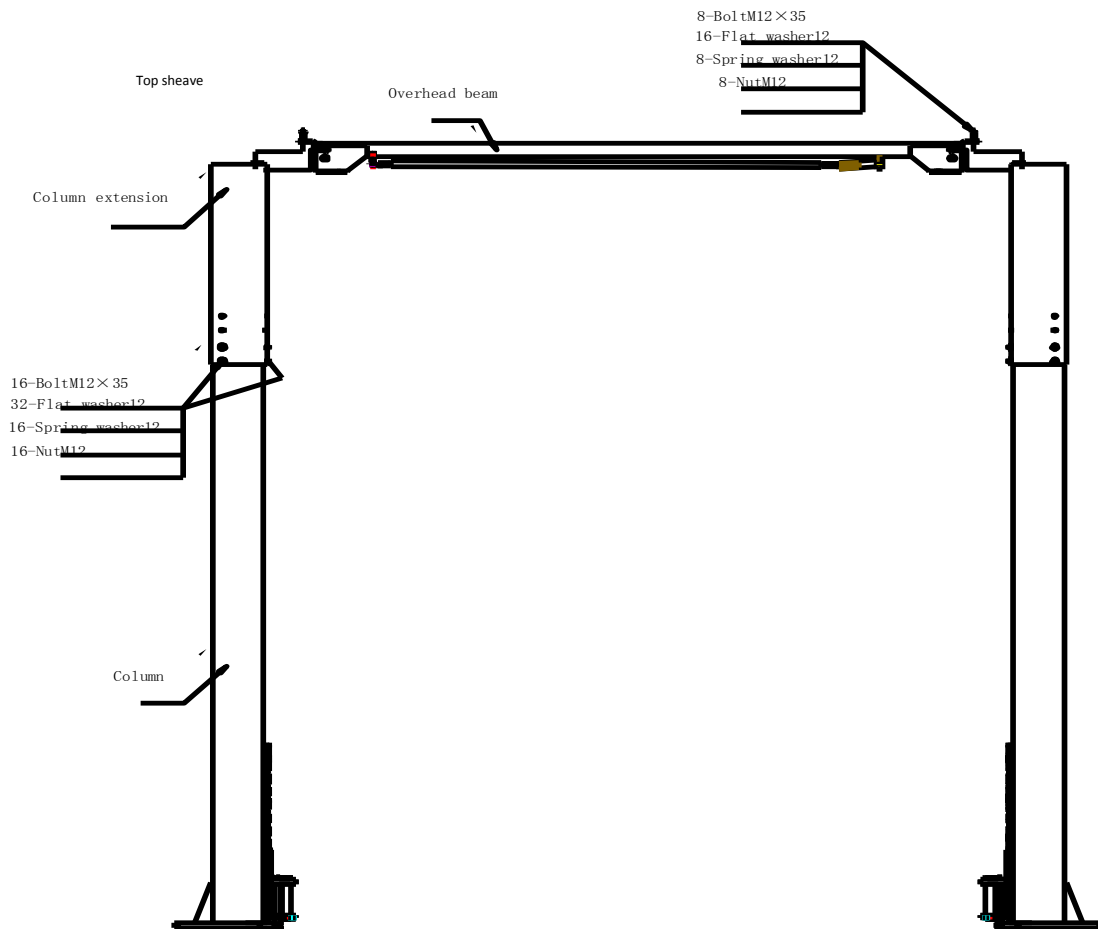
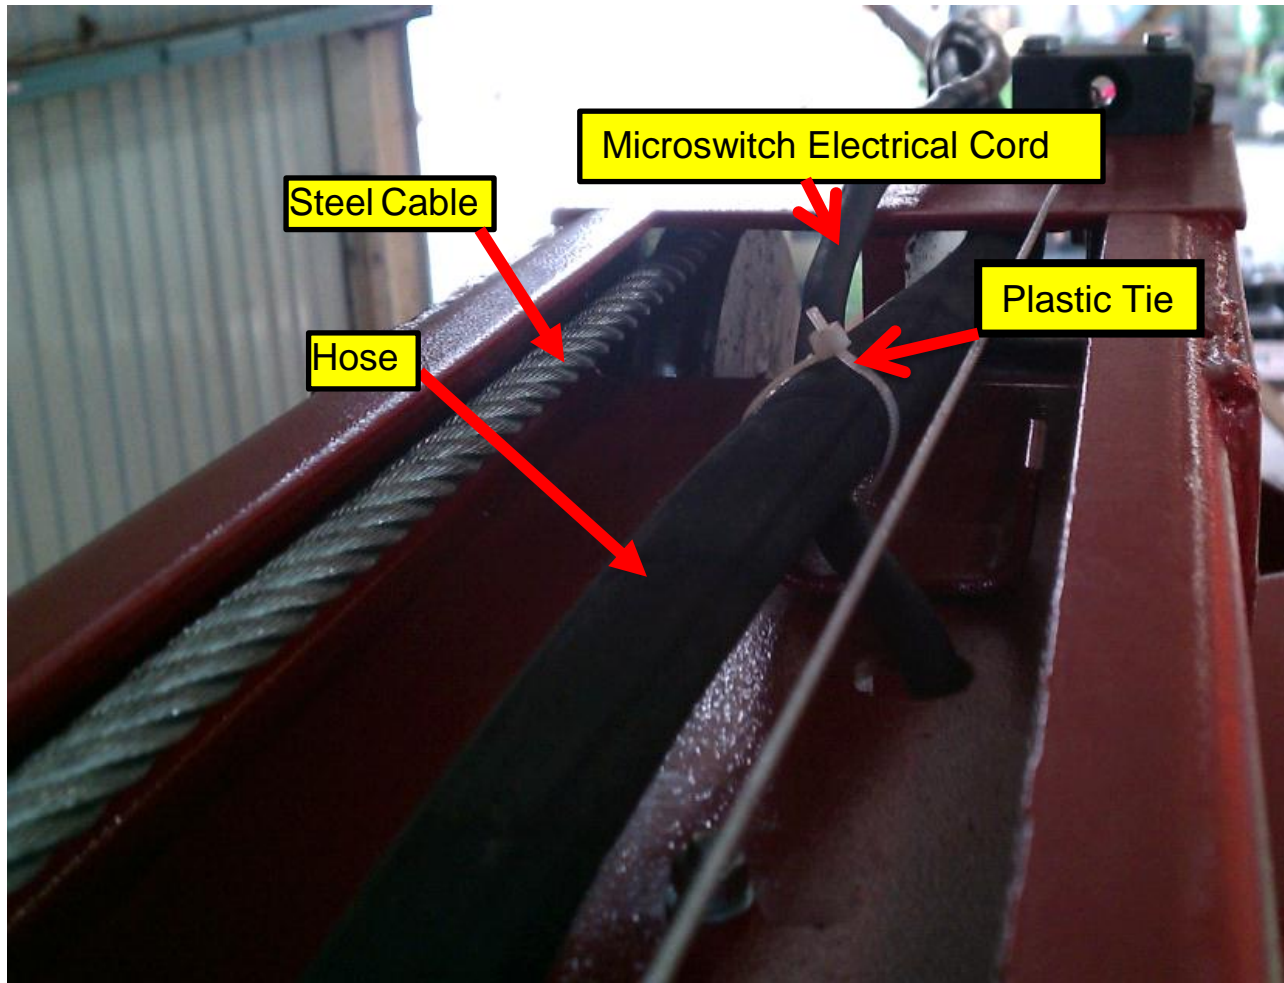

Figure 5
Figure 10
After attaching the column extension to the idler column, position the idler column at the designated chalk location. Lift the overhead beam to its highest position and use the fasteners to attach it to the columns (as shown in Fig. 5). When installing the overhead beam, ensure the microswitch support adjacent to the power side column is positioned at the power side column location. Route the microswitch cord through the end of the overhead beam and down the outside of the column as shown in Fig. 10.
* Connect the microswitch cord as shown in Fig. 10 and Fig. 11.